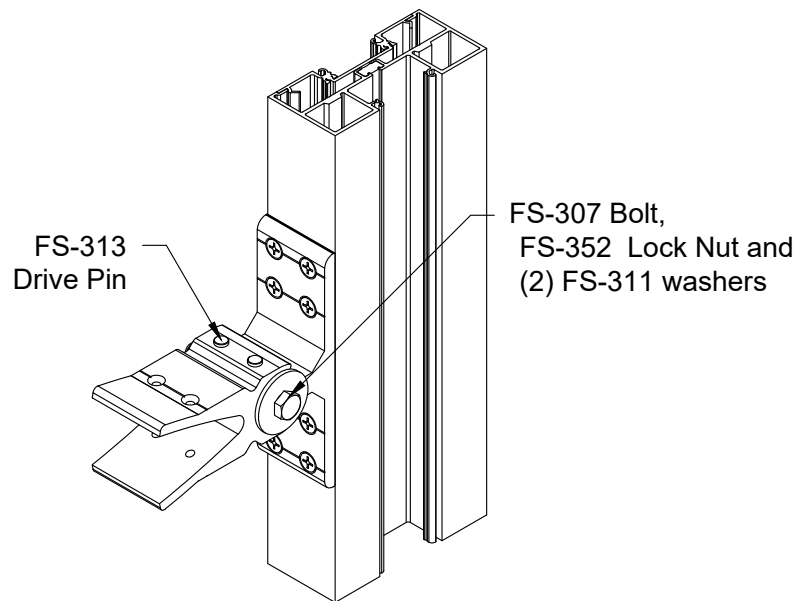

FIGURE 24
- 5) Insert FS-313 drive pins into anchors and drive into anchor. Install pins on top side when possible. Once pins are installed, bolt assembly together using a FS-307 (3/8"-16 x 2-3/4" Hex Bolt), FS-352 lock nut and (2) FS-311 fender washers. SEE FIGURE 24